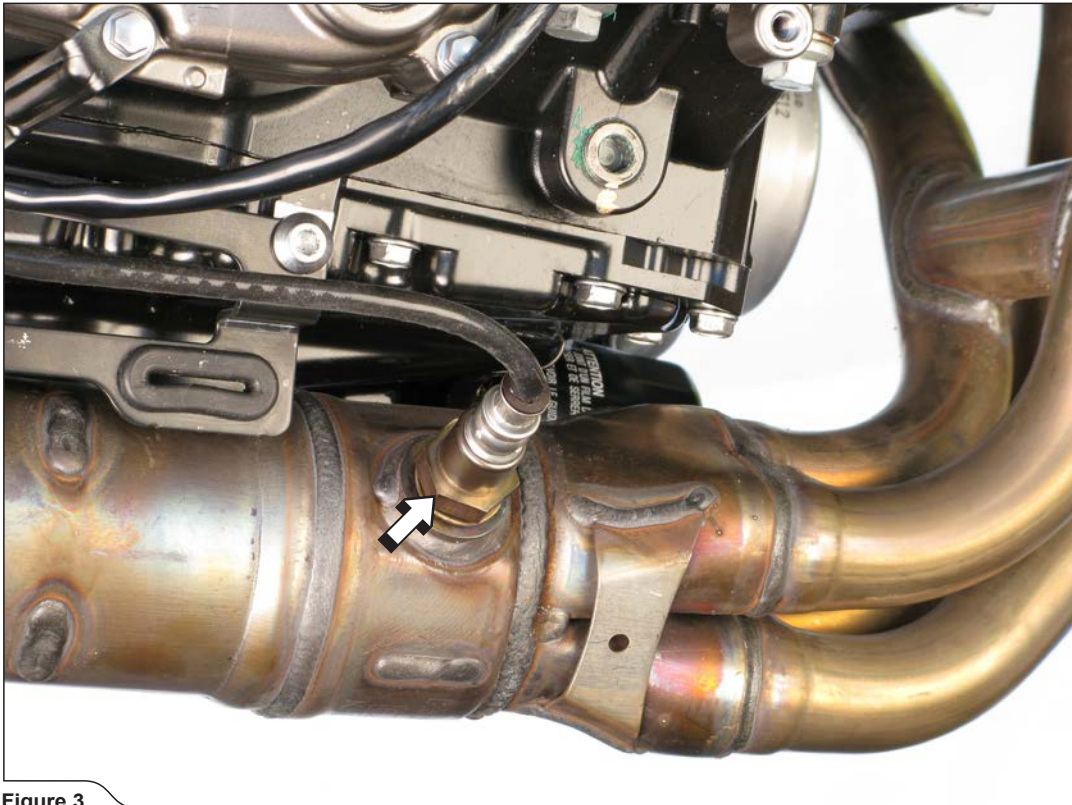

Figure 3
4. Unscrew the lambda sensor (Figure 3).